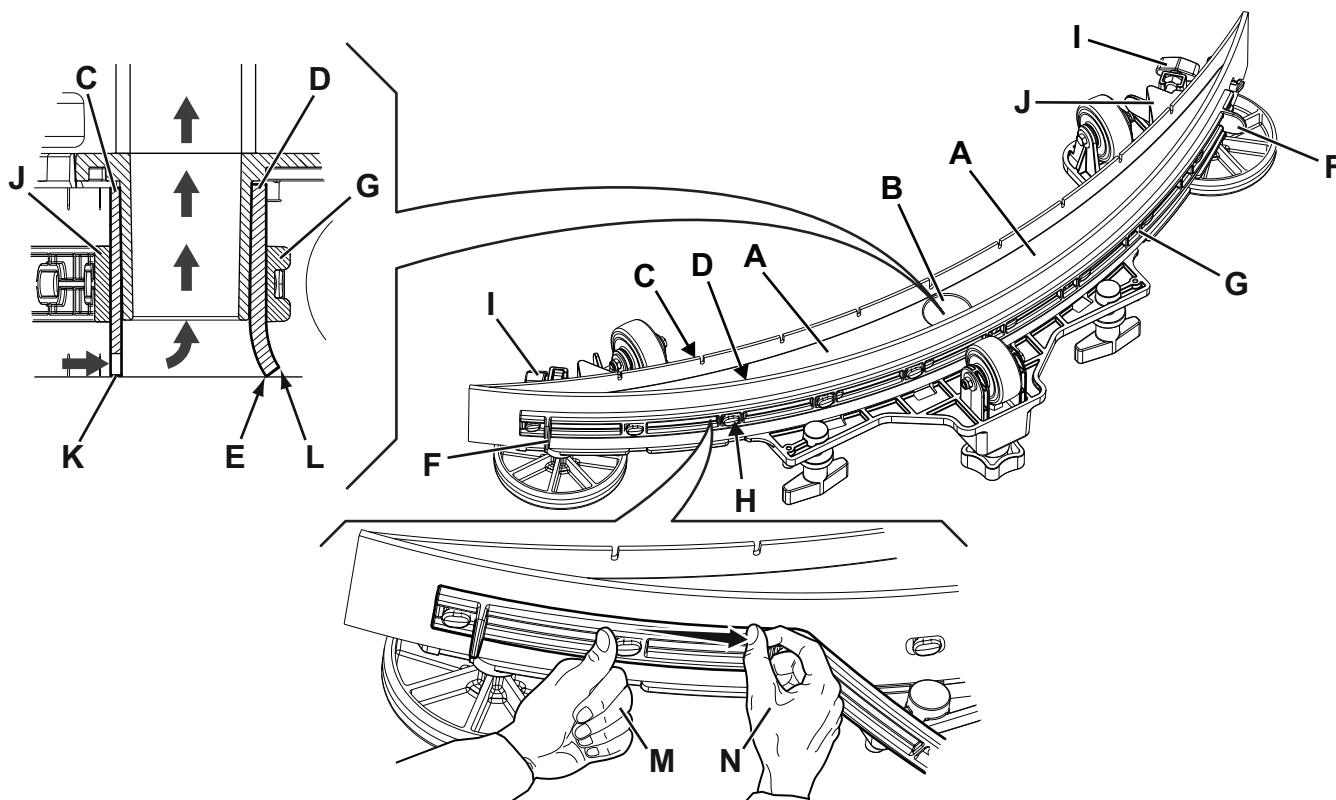

Figure 5
2. Ensure that the machine is turned off and the power supply cable plug (4) is disconnected from the electrical mains.
3. Loosen the handwheels (13) and remove the squeegee (26).
4. Wash and clean the squeegee. In particular, clean the compartments (A, Fig. 5) and the vacuum hole (B). Check the condition of the front (C) and rear (D) blades, ensuring there are no cuts and tears; if necessary, replace them as shown below.
2. Check the condition of the front (C, Fig. 5) and rear (D) blades, ensuring there are no cuts and tears; if necessary, replace them as shown below. Check that the front corner (E) of the rear blade is not worn; otherwise, turn the blade to replace the worn corner with one of the three remaining intact corners. If the other corners are worn too, replace the blade according to the following procedure:
- Using the tab (F), release and remove the elastic strap (G) from the fasteners (H), then turn or replace the rear blade (D).
- Install the blade in the reverse order of removal. Fasten the elastic strap (G) to the fasteners (H) starting from one side. To make the fastening procedure easier, secure the fasteners one at a time, by locking the strap before the fastener with one hand (M) and pulling it with the other hand (N).
- Unscrew the handwheels (I) and remove the strap (J), then turn or replace the front blade (C).
3. Install the squeegee (26) and screw down the handwheels (13).
- Check that the lip (K) of the front blade (C) and the lip (L) of the rear blade (D) are resting as shown in the figure.
- Use the knob (14) to make adjustments.